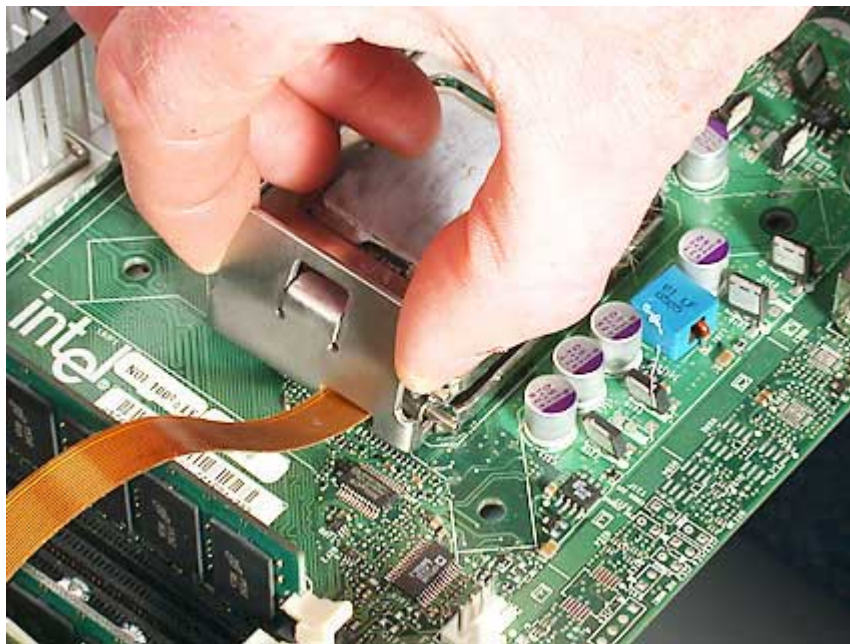

Figure 2.06 Hooking the End Plate under the Load Lever
7. Hook the interposer End Plate under the Load Lever of the board under test (Figures 2.06 and 2.07) The flex cable from the interposer PCB passes under a recess in the End Plate. The design of the hooks on the Foxconn and Tyco End Plates differs slightly. A few millimeters of clearance between the on-board socket and surrounding components are required to enable the End Plate to be attached.